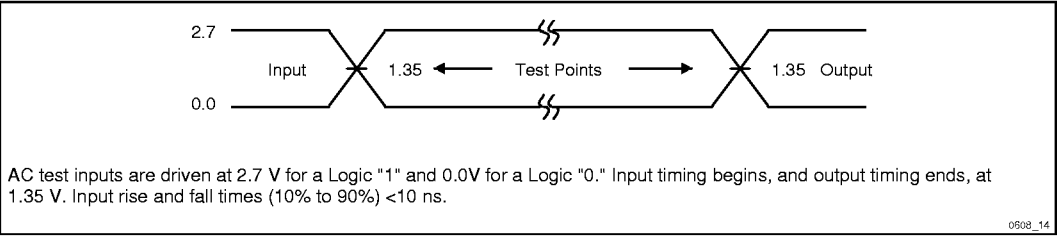

Figure 14. Transient Input/Output Reference Waveform for $V_{CC} = 2.7\text{ V}–3.6\text{ V}$
5. See Figures 14 through 16 for testing characteristics.
- See Figures 14 through 16 for testing characteristics.